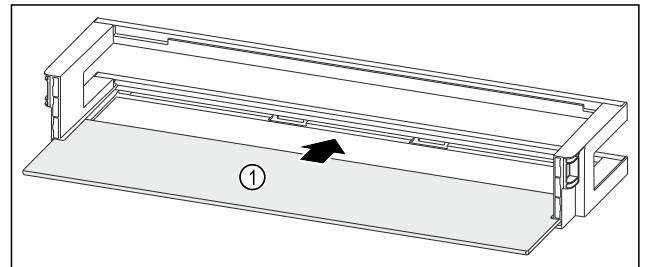

Fig. 135 Door racks with shelf
- Push the shelf Fig. 135 (1) into the side cutouts.